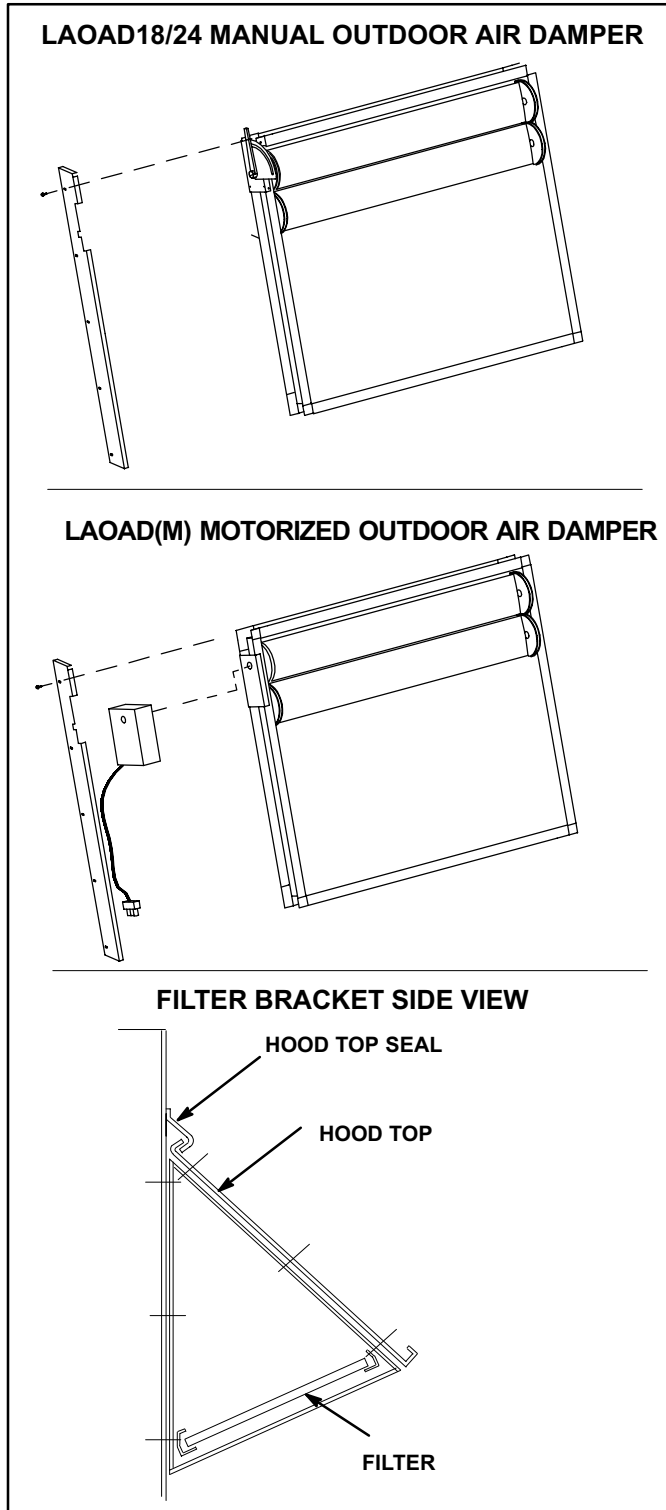

FIGURE 34
LAOAD(M)18/24 consists of a set of dampers which may be manually or motor (M) operated to allow up to 25 percent outside air into the system at all times (see figure 34). Both air dampers can be installed in LGA / LHA / LCA units. R for specific installation procedure. Washable filter supplied with the outdoor air dampers can be cleaned with water and a mild detergent. It should be sprayed with Filter Handicoater when dry prior to reinstallation. Filter Handicoater is R.P. Products coating no. 418 and is available as Lennox Part No. P-8-5069.